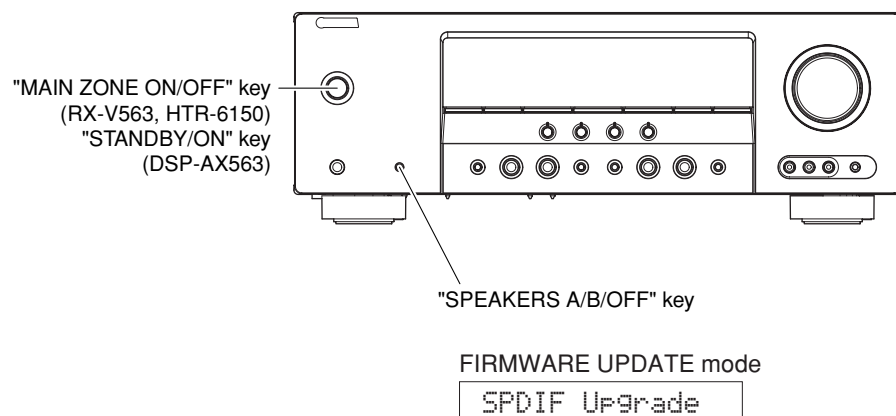

Fig. 2
2. While simultaneously pressing the "MAIN ZONE ON/OFF" (RX-V563, HTR-6150) / "STANDBY/ON" (DSP-AX563) and "SPEAKERS A/B/OFF" keys of this unit, connect the power cable of this unit to the AC outlet. (Fig. 2)
The FIRMWARE UPDATE mode is activated and "SPDIF Upgrade" is displayed. (Fig. 2)